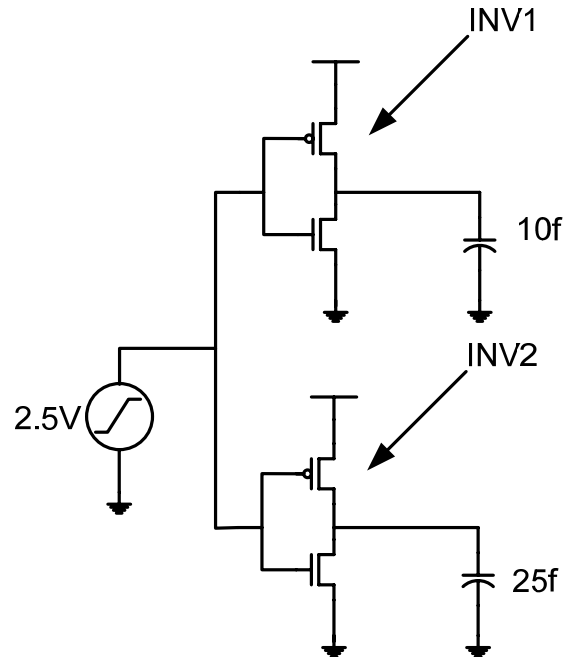

Figure 3 : Two identical inverters driving different loads
6.0 – Consider the two situations of an inverter driving different loads shown in Figure 3. Which inverter experiences higher crowbar current upon a switching event at the input.